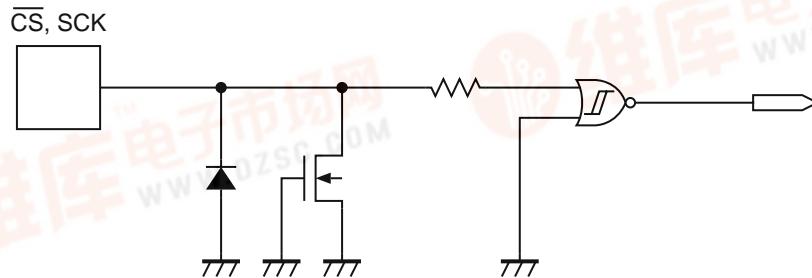

Figure 20  $\overline{\text{CS}}$ , SCK Pin
**Figure 20** and **21** show the equivalent circuits of input pins in S-25C320A/640A. A pull-up and pull-down elements are not included in each input pin, pay attention not to set it in the floating state when you design.